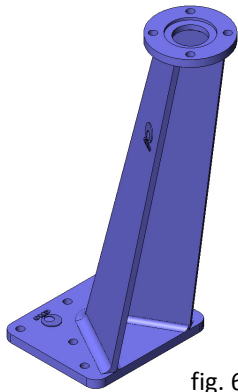

fig. 6
- Leaning floor stand (fig. 6)